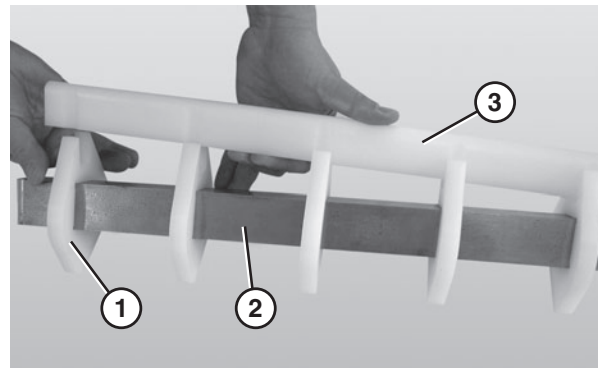

Figure 75
- Remove the nose bar wear strip (**Figure 75, item 3**).
- Slide the nose bar pucks (**Figure 75, item 1**) off the nose bar shaft (**Figure 75, item 2**).